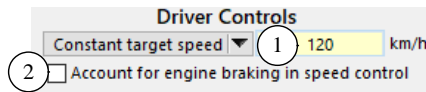

Figure 3. Appearance when a constant target speed is selected.
3. If a **Constant target speed** is selected, then a yellow field is shown for specifying that speed, along with a checkbox ② (Figure 3).
- ② Checkbox to account for engine braking in the speed controller. If the option is set to **Constant target speed**, then a yellow field is shown for the speed, plus this checkbox (②, Figure 3) to specify whether the controller will account for engine braking. In this case, the speed controller gains and brake system performance parameters will retain their default settings (e.g., `OPT_BK_SC = 0`). With the Constant target speed option, a new `SPEED_TARGET` dataset is automatically added to the model, with the specified value for speed assigned using the `SPEED_TARGET_CONSTANT` command for the new datasets. If this is the first reference to a `SPEED_TARGET` dataset, the index will be 1, and the speed will appear in the Echo file with the keyword `SPEED_TARGET_CONSTANT(1)`. However, if target speed datasets are specified before the **Procedures** dataset (e.g., `SPEED_TARGET` datasets might be linked to ADAS Sensors associated with the vehicle), then the index will be higher than 1. With the Constant target speed option, a command “`OPT_SC 3`” is also written to enable the speed controller.